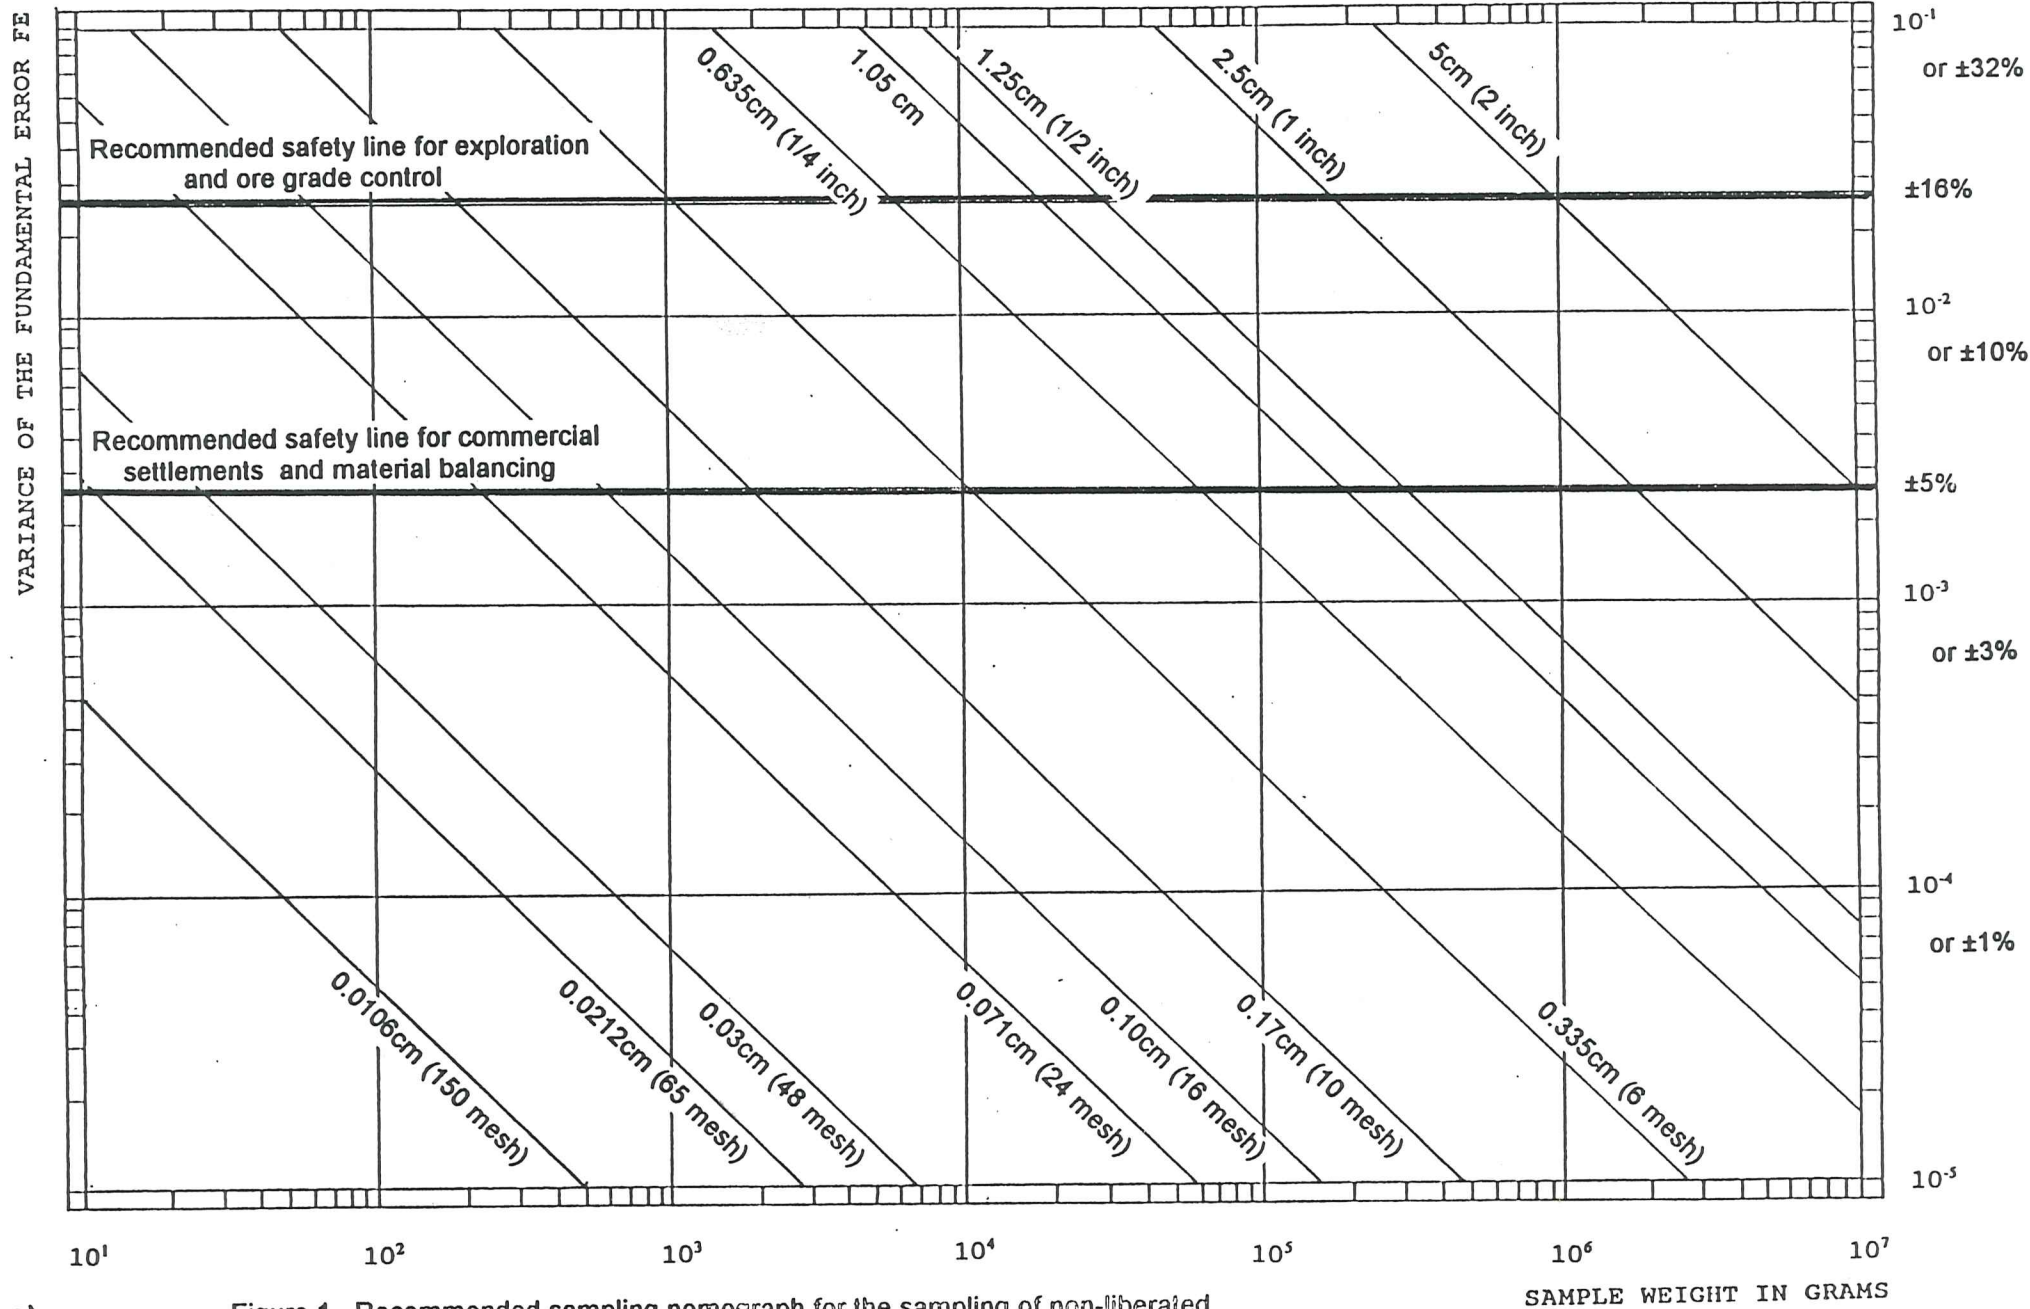

Figure 1. Recommended sampling nomograph for the sampling of non-liberated gold in the Rosebud Project.
With these values, it becomes easy to calculate the useful nomograph illustrated in figure 1, which is characteristic of the Rosebud gold ore used for the heterogeneity test.
2. When pulverizing the material, all rocks do comminute very well, except the largest gold particles. As a result the nomograph illustrated in figure 1 is no longer reliable.